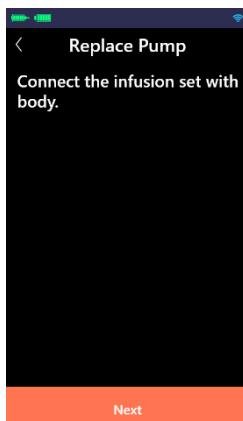

Figure A.9.6
(6) Connect the infusion set with body (as shown in Figure A.9.6), When completed, click "Next".